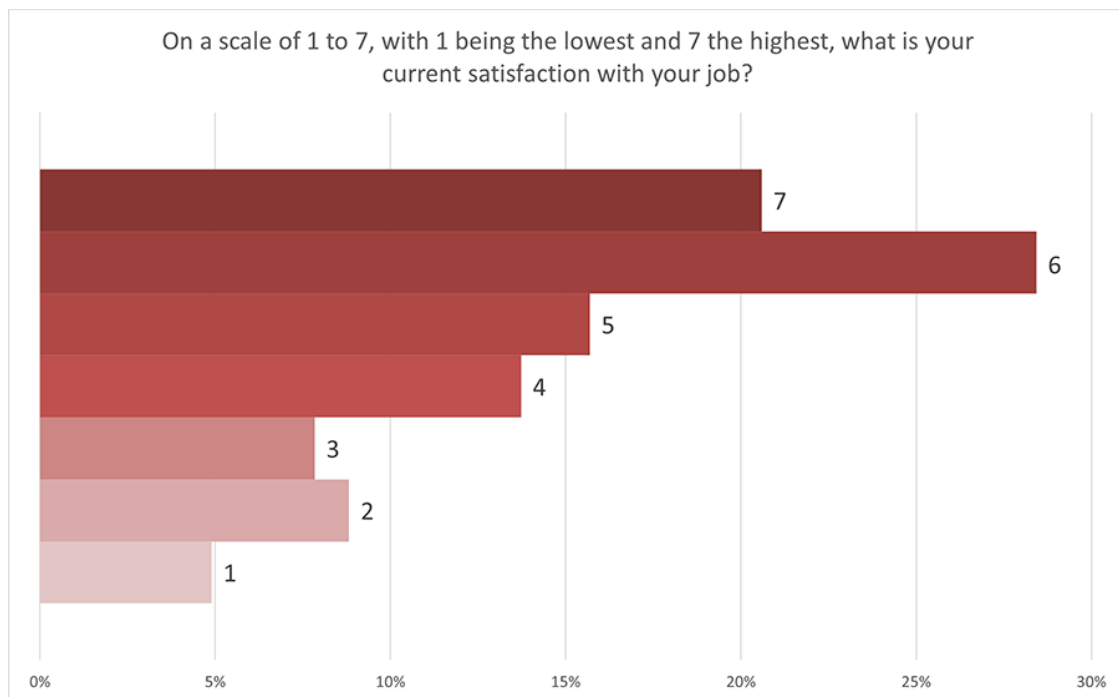

Figure 5. More than 64% of respondents said they are satisfied with their job.
**Job satisfaction.** The bonuses and pay raises could be a major factor behind the majority's satisfaction with their jobs. On a scale of 1-7, with one being completely dissatisfied in their position and seven being highly satisfied, 65% of respondents rated their satisfaction as a 5 or higher, with 21% giving the highest rating of 7 (**Figure 5**).